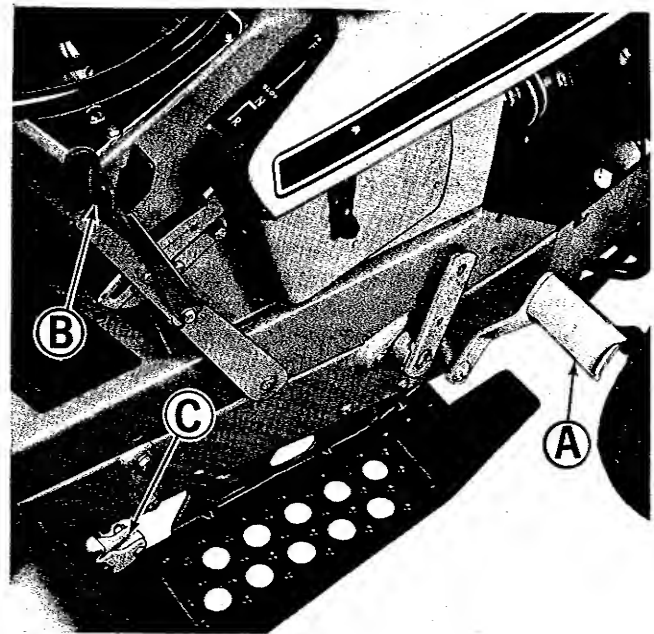

Figure 2. Controls on right side of tractor
**CLUTCH AND BRAKE PEDAL:** (Figure 2, item A)
**LEVER:** (Figure 2, item B) The Hydrostatic transmission control lever regulates the direction and amount of oil (fluid) pumped by the hydrostatic transmission pump to drive the tractor, and is used to control both the direction of travel and the ground speed of the tractor. **NEUTRAL** position for the hydrostatic transmission control lever is as shown with the back of the control lever resting against the notched portion of the guide. The hydrostatic transmission control lever must be in this neutral position for the engine starter to operate.
To move the tractor in **REVERSE**, squeeze the trigger of the hydrostatic control lever toward the knob, push the lever to the left, and pull it back from the neutral position. The farther back the control lever is moved, the faster the tractor will travel in **REVERSE**. To stop the tractor in reverse, squeeze the trigger toward the knob and move it slowly to the neutral position. In emergency situations, you may use the clutch and brake pedal (Figure 2, item A) to stop.
**PARKING BRAKE LOCK:** (Figure 2, item C) To lock the parking brake grasp the lock, and pull it upward and
back until the handle rests against the foot rest as shown in figure 2. To release pull the top portion away from the foot rest and down. It should be locked in the up position to prevent the tractor from rolling whenever the operator leaves the tractor seat.